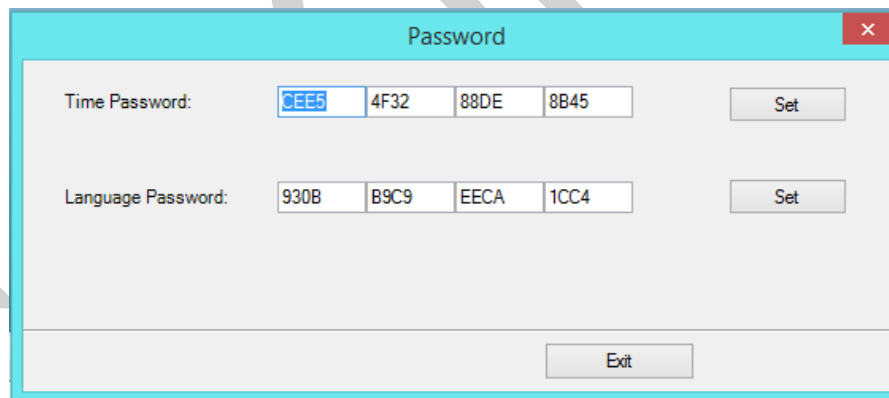

Fig 20: The Password Window
Step 2: Feed Password in the **Time Password** field (Refer to Fig 20).
Step 3: After feeding the passwords, click on the **Set** button (Refer to Fig 20).
Step 4: Click on the **Exit** button to close the **Password** window (Refer to Fig 20).
- Password Screen (Refer to Fig 20)